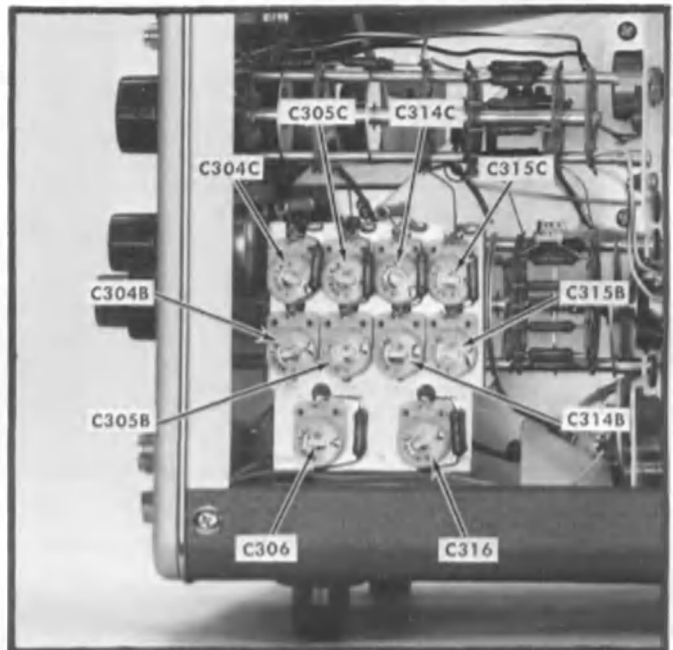

Fig. 6-21. Horizontal Amplifier attenuator compensation adjustment location (instrument right side).
i. Adjust C306 for an optimum square wave with flat top. (See Fig. 6-21 for adjustment locations.)
z. Repeat the procedure outlined in steps (h) through (y), referring to Table 6-4 for control settings, adjustments required, and waveform tolerances. The HORIZONTAL —INPUT attenuator adjustment locations are shown in Fig. 6-21.